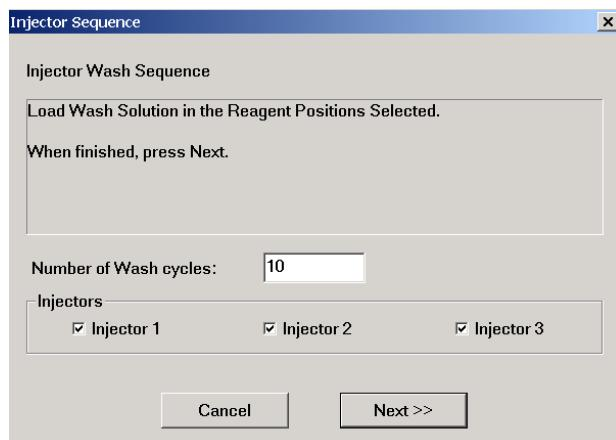

Figure 5-16: Loading the wash solution
- Then you are prompted to load the wash solution in the selected reagent positions (Figure 5-16).